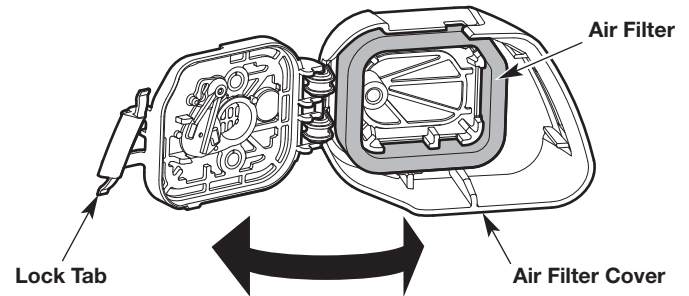

Fig. 11
1. Open the air filter cover: press in the lock tab and swing the air filter cover to the right (Fig. 11).
2. Remove the air filter from inside the air filter cover (Fig. 11).
6. Reinstall the air filter inside the air filter cover (Fig. 11).
7. Close the air filter cover: swing the air filter cover to the left and press it closed until the lock tab snaps into place (Fig. 11).